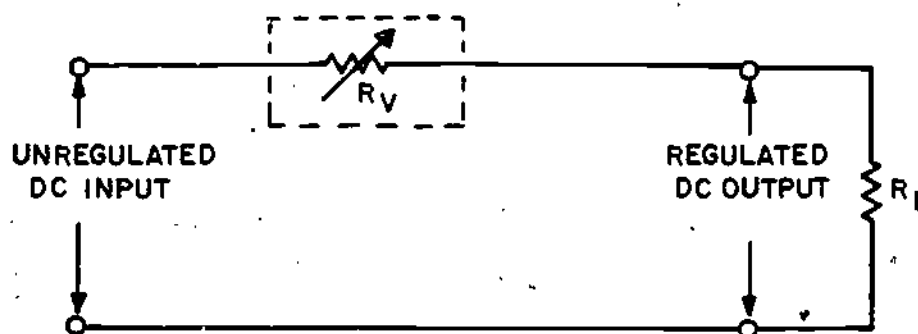

FIGURE 3
7. Figure 3 illustrates the principle of series voltage regulation. As you study the figure notice that the regulator is in series with the load resistance and that all current passes through the regulator. In this example variable resistor R_v is used for regulation. Examine the circuit to determine how the regulator functions. When the input voltage increases this also causes the output voltage to increase. However, since the voltage regulator senses this change, the resistance of the regulating device R_v increases and results in a greater voltage drop across R_v . This causes the output voltage to decrease to normal, or for all practical purposes, to remain constant.